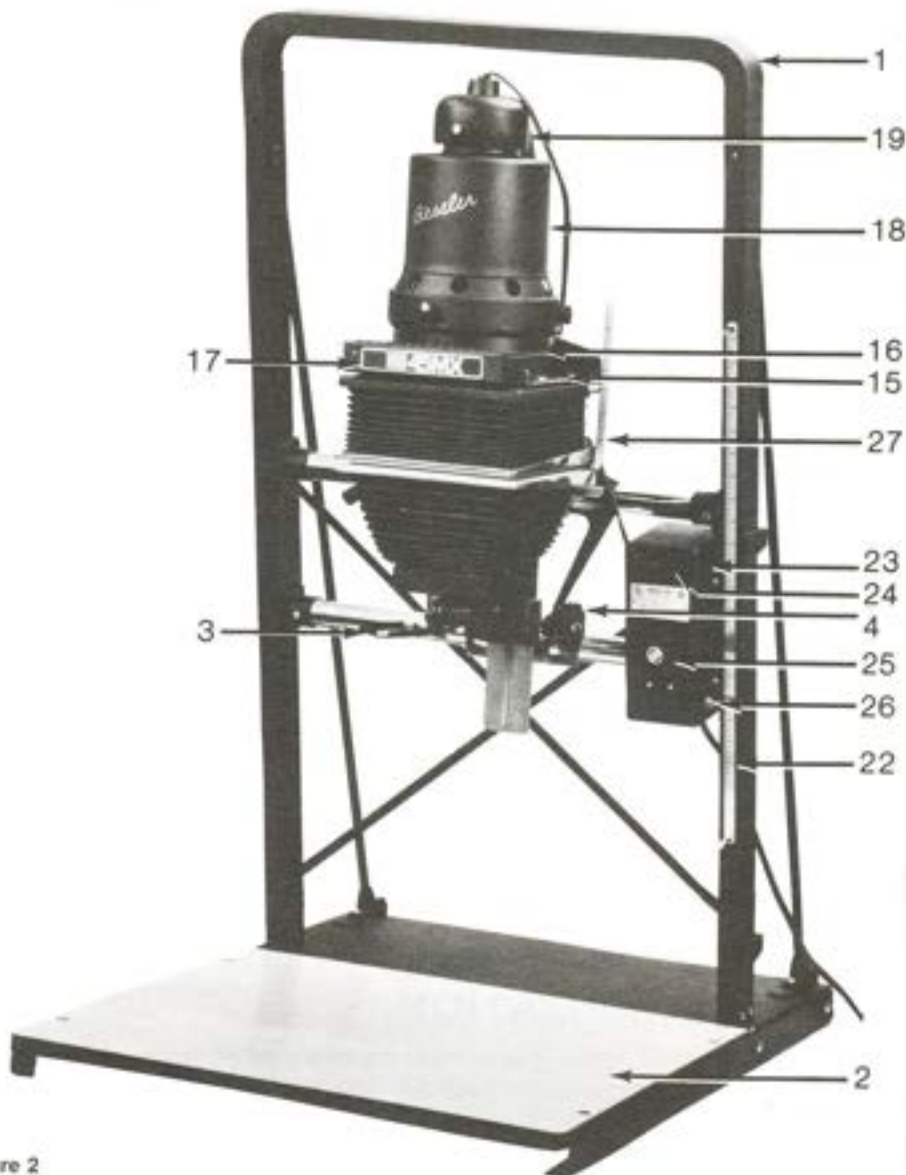

Figure 2
Before printing, you must set the negative stage to the proper height to provide even illumination for the negative you are using. This is accomplished by turning the negative stage adjustment knob (Figure 1, item 11) until the correct position is shown on the negative stage guide (Figure 2, item 27). The negative stage lock (Figure 1, item 12) should be tightened so that no movement of the stage occurs while you are making other adjustments. Five positions are inscribed on the negative stage guide. Table I indicates which settings cover which size negatives.
The magnification scale (Figure 2, item 22) on the enlarger frame can help you duplicate your results at a later session. After you create a print with which you are satisfied, you should not only record the f-stop and exposure time, but the reading behind the motor switch on the magnification scale. (The increments on the scale are for reference only, and do not indicate actual magnifications.) The next time you wish to duplicate this print, simply raise or lower the enlarger head to the same reference point and focus the image. Of course the negative stage setting and the lens size must be the same as originally used.